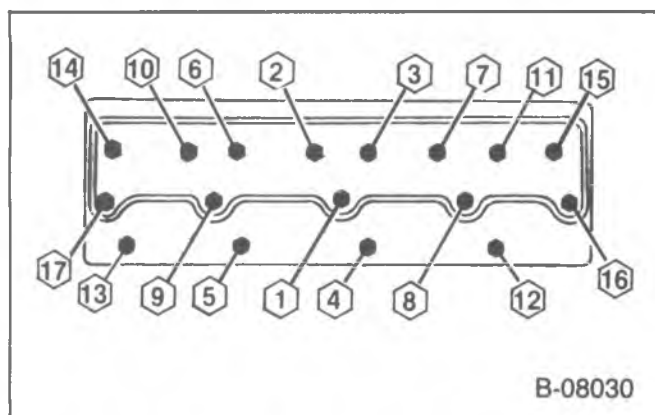

Figure 10—Head Bolt Tightening Sequence
Install or Connect (Figure 10)
- Using the sequence shown in figure 10, tighten all bolts to 25 N·m (20 ft. lbs.).